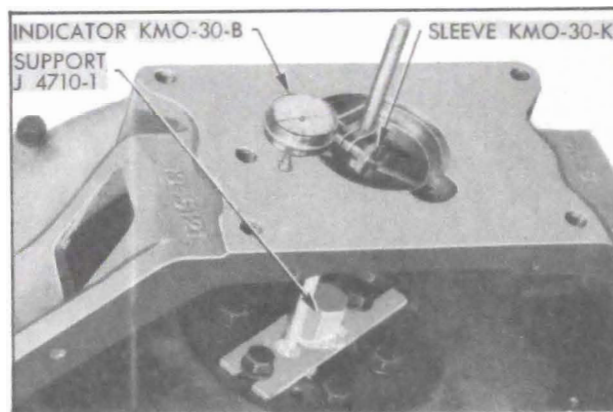

Figure 4-28—Checking Run-Out of Rear Face of Housing
7. Mount dial indicator to bear against rear face of flywheel housing at a radius of 2 1/2", as shown in figure 4-28.